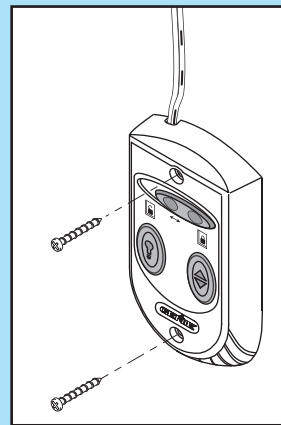

FIG. 3-4 Mounting Wall Console.
- Fasten wall console to wall with 2 screws (provided) (**Fig. 3-4**).